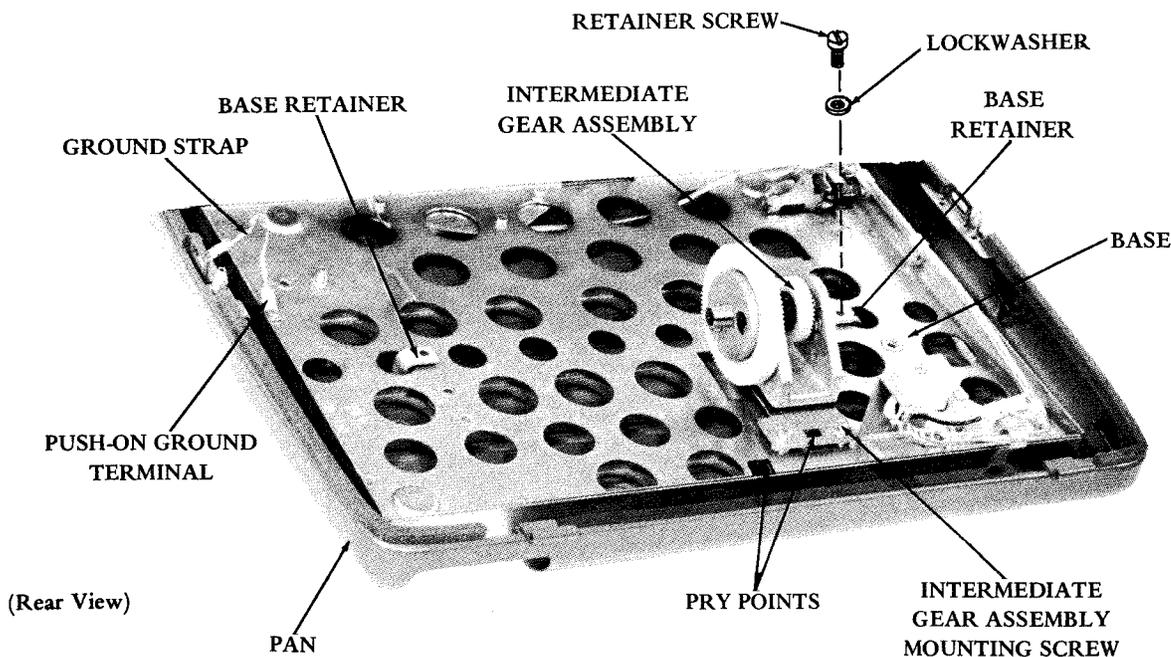

Figure 6 - Base and Intermediate Gear Assembly
2.09 To remove the base from the typing unit cover and pan, proceed as follows (Figure 6).